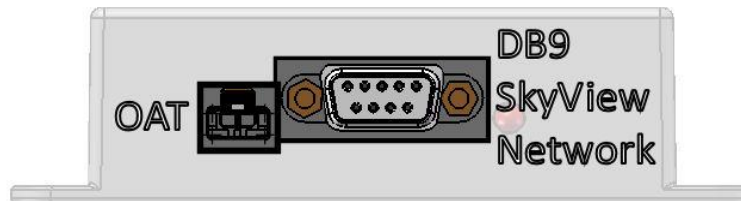

Figure 149: SV-ADAHRS-200/201 Connectors
A SkyView ADAHRS module (SV-ADAHRS-200/201) has two (2) connectors as illustrated in Figure 149:
- One (1) D9M SkyView network connector.
- One (1) 2-pin OAT sensor connector (only compatible with the SV-OAT-340).